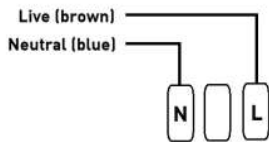

Fig. 2
- Connect the luminaire to the mains supply ensuring the correct polarity is observed (see Fig. 2): L - Live (brown), N - Neutral (blue). The earth terminal is non-functional and only provided for convenience